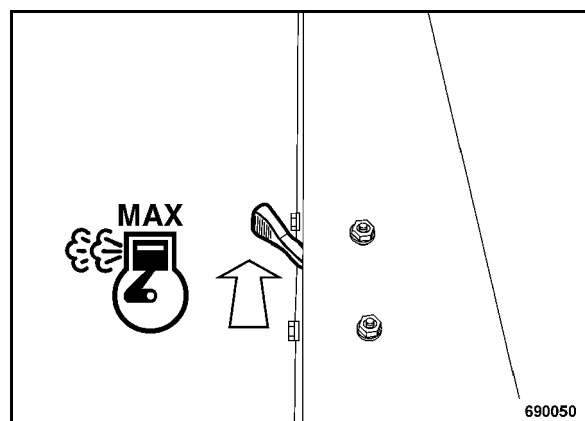

Fig. 15
- Set the throttle lever (Fig. 15) to position "MAX".